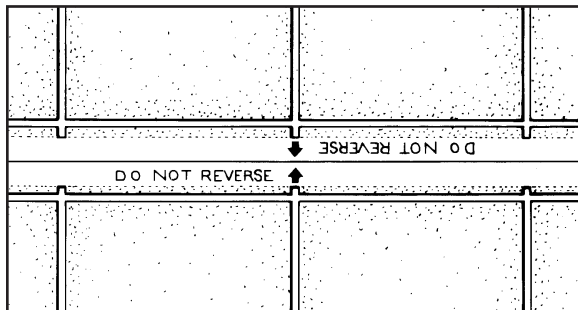

Fig. 9. Example of selvage imprinted with Do-Not-Reverse and arrow for design match point.
- Most designs will have an arrow imprinted in each selvage that, when aligned, is the design match point (Figure 9).